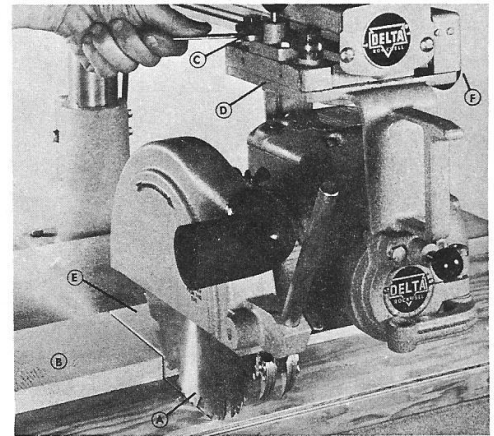

FIGURE 11
1. Tighten rip lock (F), and raise cutting head about 2 inches above table.
2. Loosen bevel clamp handle (B) as shown.
3. Loosen hex lock nut (C).
4. Turn bolt (D) clockwise to tighten, using wrench, then securely lock by re-tightening hex nut (C).
5. Bevel clamp handle (B) will now furnish rigid holding action at any angle.
6. Install saw guard as in Fig. 11.
Check "Heeling" in saw cut, see Fig. 11. Even though the track-arm may be perfectly aligned to guide fence you may feel a "drag" in cutting action. This means that the saw blade teeth are not cutting in a true plane. In effect, the back teeth of the cutting blade are not following the plane (Kerf) of the front teeth.
3. If saw teeth marks appear on the (E) Fig. 11 side, this means that the back end of saw blade (A) must be shifted toward (B) side.
4. Loosen yoke clamp handle (F). Then loosen both hex cap screws (C) and turn yoke (D) COUNTER-CLOCKWISE. If saw teeth marks appear on (B) side of board, turn yoke (D) CLOCKWISE.
5. Tighten yoke clamp handle (F) to hold position. Re-tighten cap screws (C) and make another test.